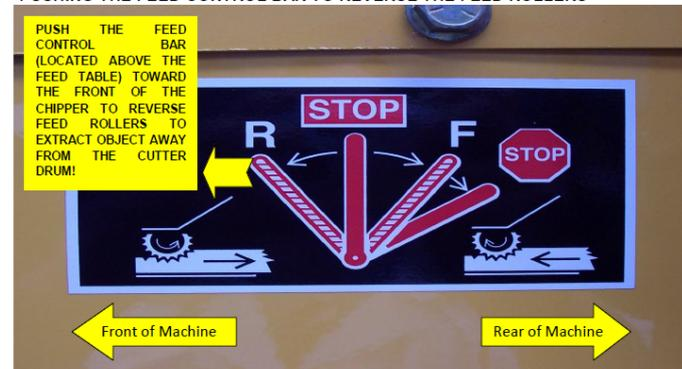

Fig. 4
- reverse the feed rollers to dislodge the non timber product with extreme care by pushing the **red coloured feed control bar** into the reverse position, fig 4. The feed rollers will now eject the non-timber product away from the internal cutter drum